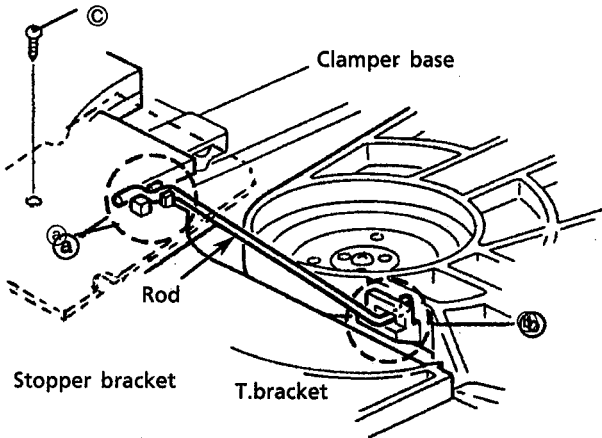

Fig. 27
2. Remove the screw ③ holding the stopper bracket.(See Fig.27) --- (U.S.A only)
3. Remove the rod from both ends' hooks which are secured on T.Bracket ② and clamber base ④.[See Fig. 27)